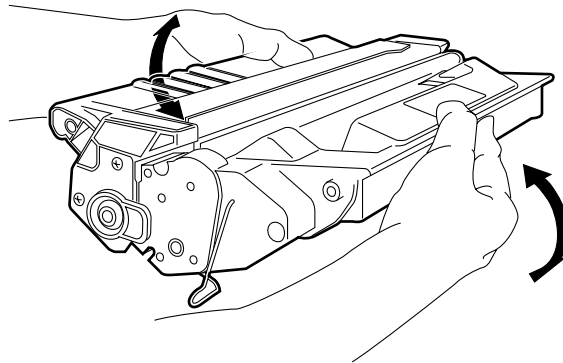

Figure 1-1
- a) When setting the cartridge in the copier, or when blank areas occur in the copy image because toner runs out during copying, hold the cartridge level, as shown in figure 1-1, and shake it several times at about 90° in both directions. After the toner inside the cartridge has been leveled evenly, set the cartridge in the copier. If the cartridge is shaken in a manner other than that described above, there is the danger that toner may leak from the developing assembly and cleaning assembly.